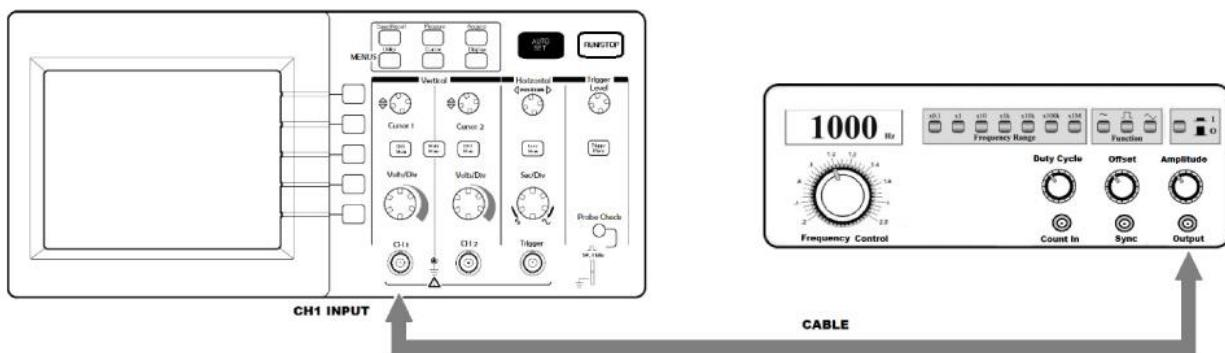

Figure 3.- Connection between oscilloscope and function generator
2. Connect the output of the function generator to the CH1 input of the oscilloscope as shown in Figure 3. Turn on the function generator. Set the function generator to sine (\sim) output with a frequency of 1000 Hz. Adjust the output voltage level to the middle of its range.